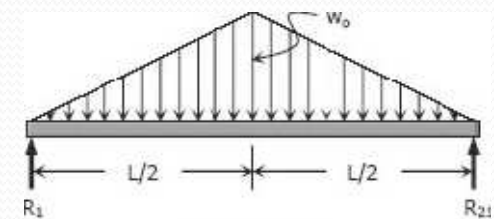

Figure P-417
- Problem 417** For Beam carrying the triangular loading shown in Fig. P-417 draw the shear force and bending moment diagrams.